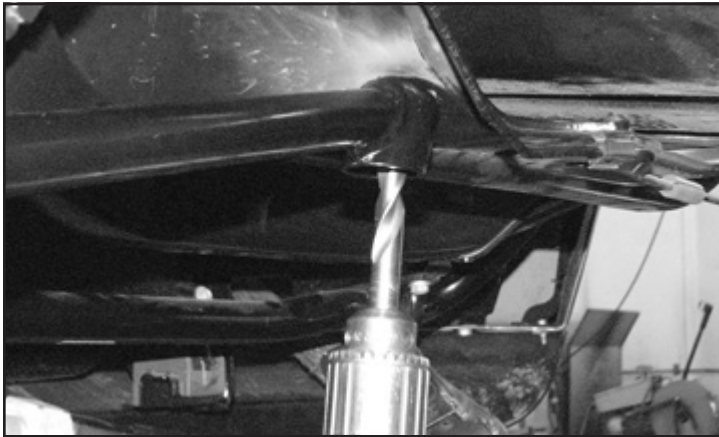

FIGURE 10 - STEP 20
20. Using the Fabtech bracket as a guide, drill a 1/2" hole in the cross member under the motor. Next, mount using 1/2"-13 x 1.5" and washer. **SEE FIGURE 10**